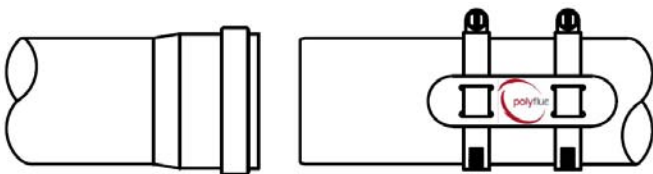

Figure 1
1. Slide the Pipe Locking Band (LB) onto the male end of the downstream connecting pipe (Fig 1).